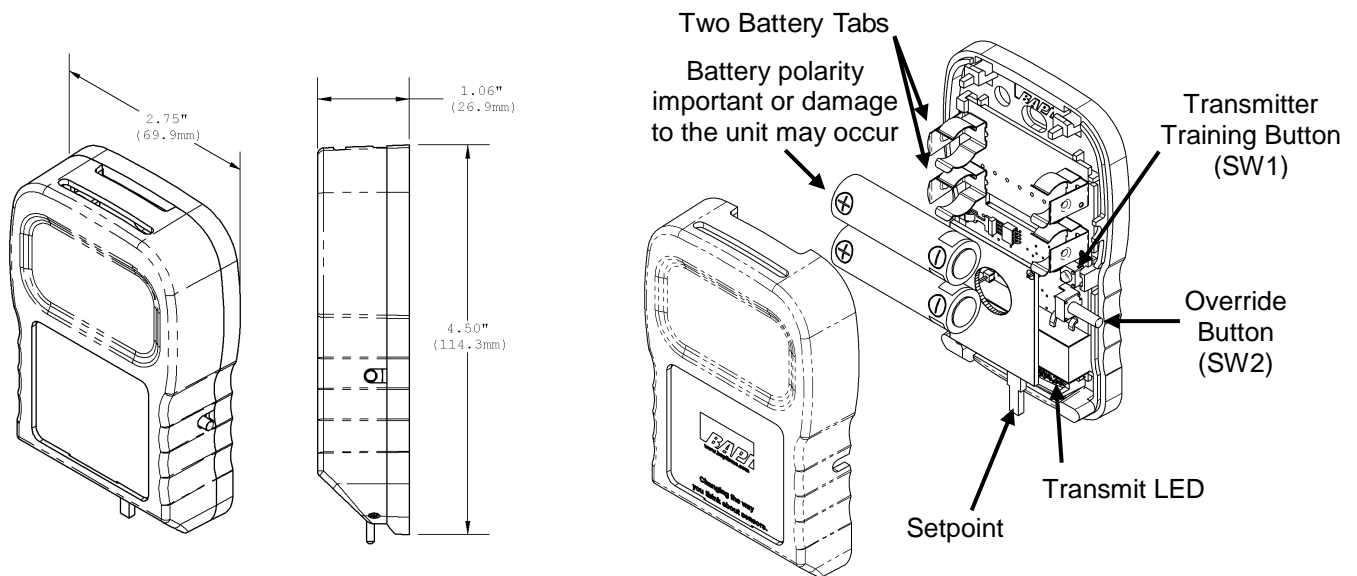
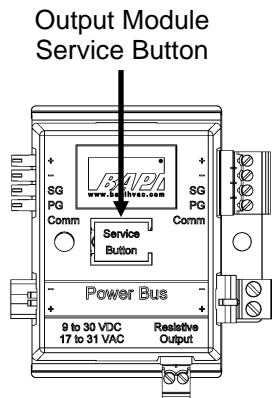

Figure 2: Wireless Temperature, Humidity Setpoint and Override Room Transmitter
Figure 4: Output Module
4. Press and hold down the *Service Button* on the output module (Figure 4). Then, press and release the training button on the transmitter. When the output module has received a valid data packet from the transmitter the output module's red LED will light and remain lit as long as you hold down the output module's service button. Release the service button on the output module and the output module's LED will go out. During normal operation the output module's LED will flash indicating data reception approximately once every 10 to 20 seconds in time with the transmitter trained to it. The output module is now receiving data from the transmitter.
4. Press and hold down the *Service Button* on the output module (Figure 4). Then, press and release the **OVERRIDE** button on the transmitter. (NOTE: If unit was not ordered with an override button a button that does not extend outside the case will be supplied.) When the output module has received a valid data packet from the transmitter, the output module's red LED will light and remain lit as long as you hold down the output module's service button. Release the service button on the output module and the output module's LED will go out. During normal operation the output module's LED will flash indicating data reception about once every 10 to 20 seconds in time with the transmitter trained to it. The output module is now receiving data from the transmitter.
3. Remove the cover of the transmitter and remove the battery tabs or install the batteries, observe polarity or damage to the unit may occur. The small LED at the bottom right of the circuit board, next to the setpoint (see Figure 2), should flash approximately once every 10 seconds indicating a transmission. (The flash is very quick.)
4. Press and hold down the **Service Button** on the output module (Figure 4). Then, press and release the **OVERRIDE** button (Figure 2) on the transmitter. When the output module has received a valid data packet from the transmitter, the output module's red LED will light and remain lit as long as you hold down the output module's service button. Release the service button on the output module and the output module's LED will go out. During normal operation the output module's LED will flash indicating data
4. Press and hold down the *Service Button* on the output module (Figure 4). Then, press and release the **VERRIDE** button on the transmitter. When the output module has received a valid data packet from the transmitter, the output module's red LED will light and remain lit as long as you hold down the output module's service button. Release the service button on the output module and the output module's LED will go out. During normal operation the output module's LED will flash indicating data reception approximately once every 10 to 20 seconds in time with the transmitter trained to it. The output module is now receiving data from the transmitter.